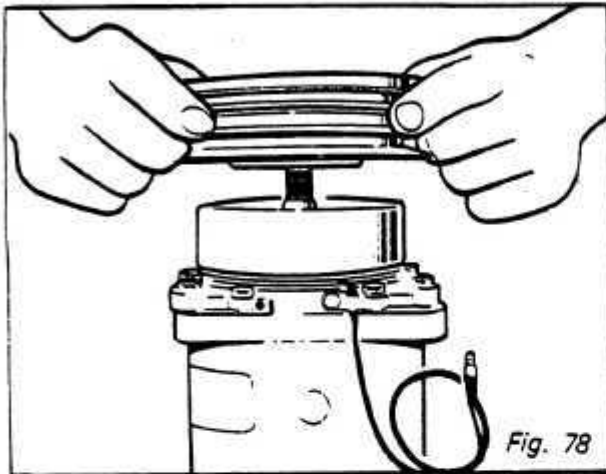

Fig. 78
- Align rotor assembly squarely on the front housing hub. *Fig. 78*